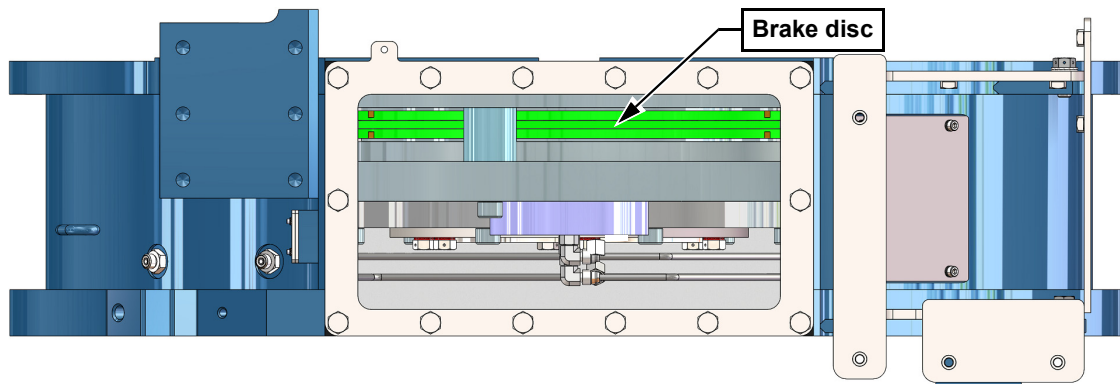

Figure 2: Brake gap inspection
- Perform a weekly visual inspection by actuating the brake ON/OFF. Confirm the brake engages and releases. In the release condition ensure there is a gap on each side of the disc. See Figure 2 on page 2.